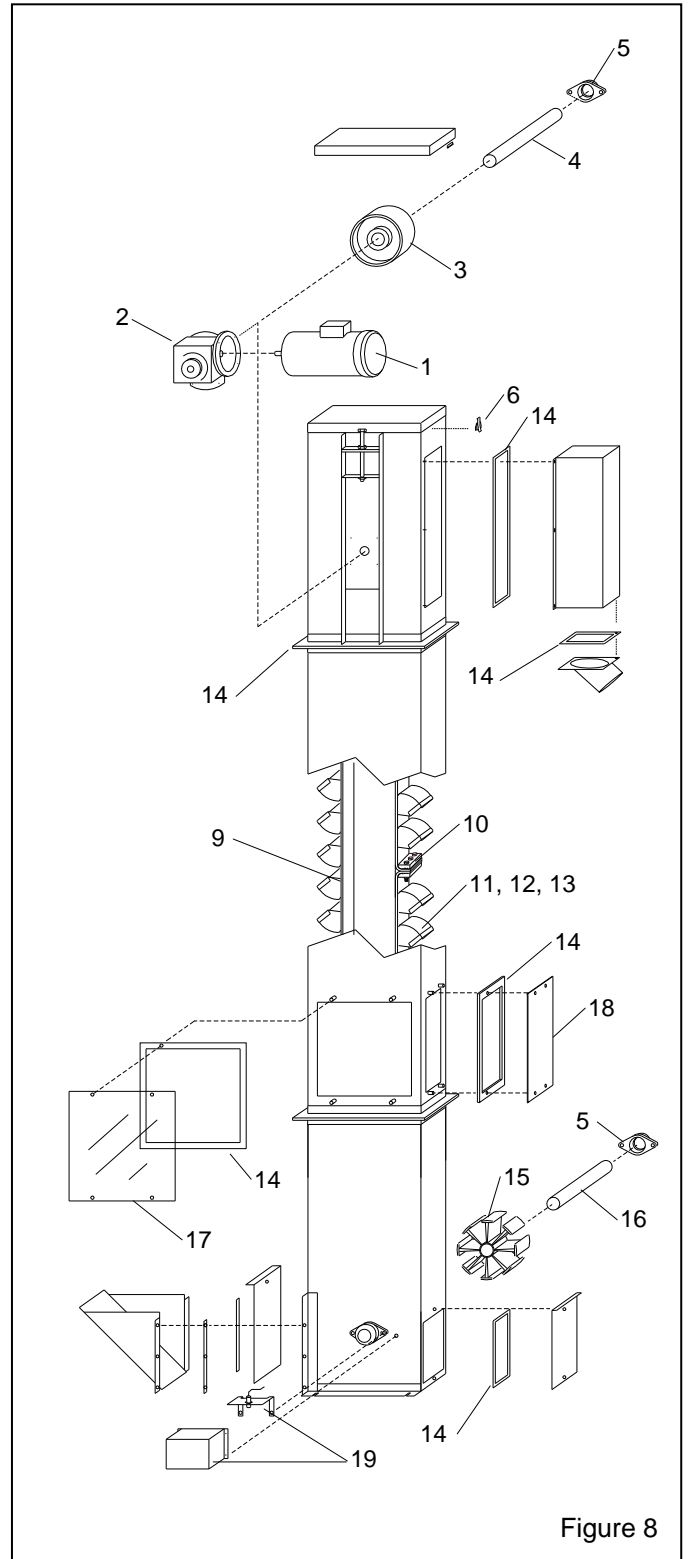

Figure 8
**8.1 Bucket Elevator Assembly, Figure 8**